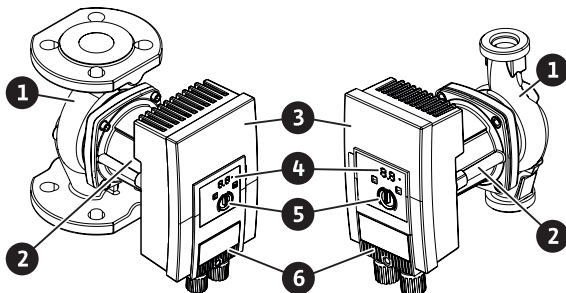

Fig. 1: Pump overview
There is a control module (Fig. 1, item 3) on the motor housing, which controls the pump and provides an SSM interface. Depending on the chosen application or control function, speed or differential pressure will be controlled. For all differential pressure control functions, the pump continuously adapts to the system's changing power requirements.